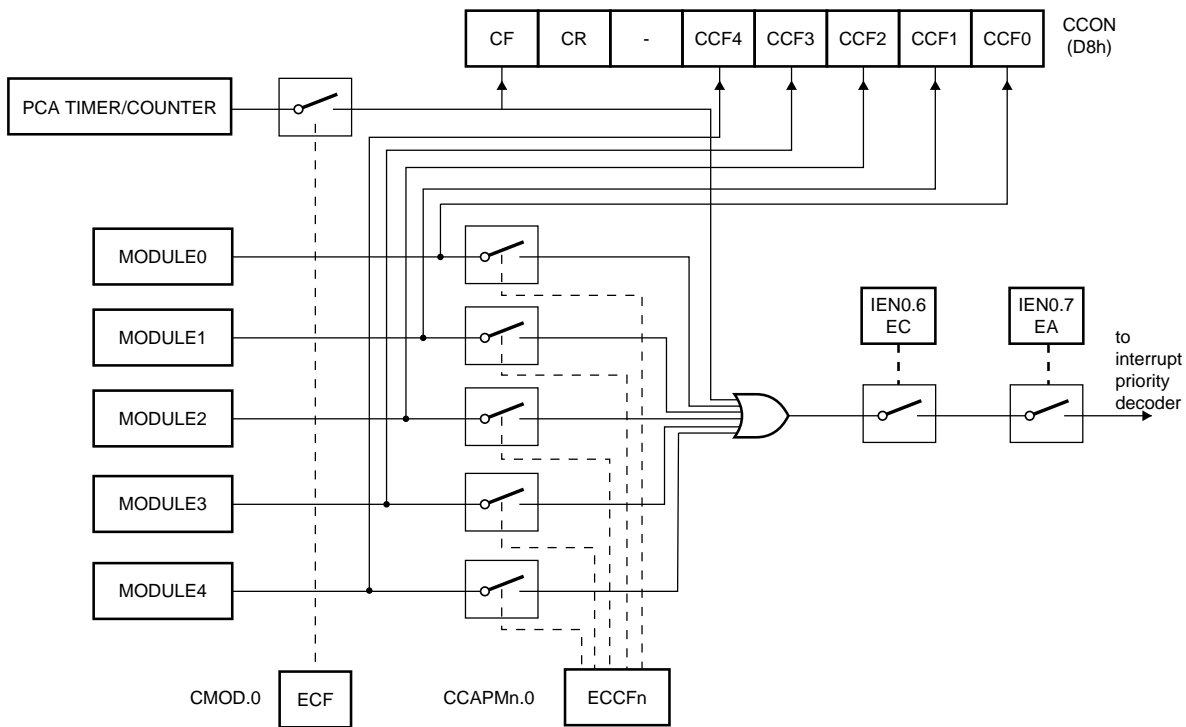

Fig 22. PCA interrupt system.
The CCON SFR contains the run control bit for the PCA (CR) and the flags for the PCA timer (CF) and each module (CCF4:0). To run the PCA the CR bit (CCON.6) must be set by software. The PCA is shut off by clearing this bit. The CF bit (CCON.7) is set when the PCA counter overflows and an interrupt will be generated if the ECF bit in the CMOD register is set. The CF bit can only be cleared by software. Bits 0 through 4 of the CCON register are the flags for the modules (bit 0 for module 0, bit 1 for module 1, etc.) and are set by hardware when either a match or a capture occurs. These flags can only be cleared by software. All the modules share one interrupt vector. The PCA interrupt system is shown in Figure 22.
The ECCF bit (from CCAPMn.0 where n = 0, 1, 2, 3, or 4 depending on the module) enables the CCFn flag in the CCON SFR to generate an interrupt when a match or compare occurs in the associated module (see Figure 22).